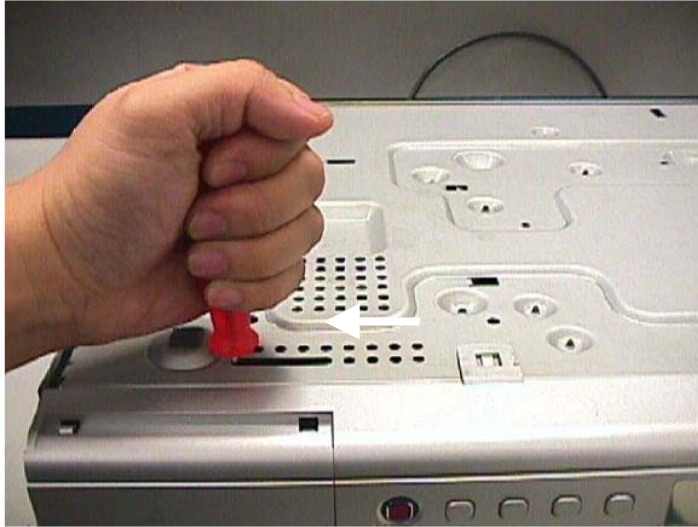

Figure 1- unlock the tray loader
- 1) Insert a screwdriver into the slot provided at the bottom of the set and push in the direction as shown in Figure1 to unlock before sliding the Tray cover 110 out.